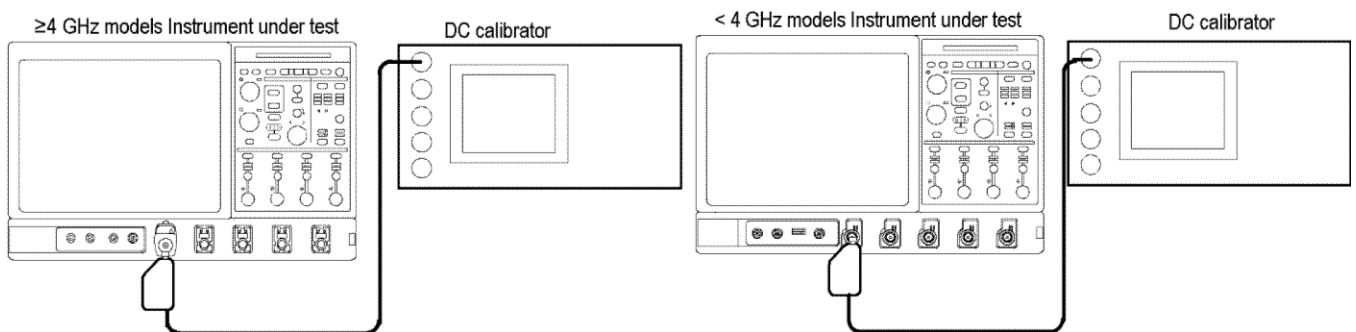

Figure 10: DC voltage accuracy test hookup, ≤ 20 GHz models
- Connect the output of a DC calibration generator. (See Figure 10: DC voltage accuracy test hookup, ≤ 20 GHz models.)